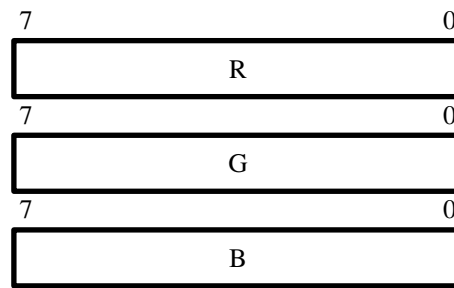

Figure 21. Bayer Pattern RGB Color Space.
- **Bayer Pattern** — This is a special case of the RGB color space where each pixel has a value for only one of the three colors. The pattern of the colors in the frame is shown in 20. Figure 21 shows the format of the bayer pattern data. This mode is defined as 8 bits per color and one color plane.